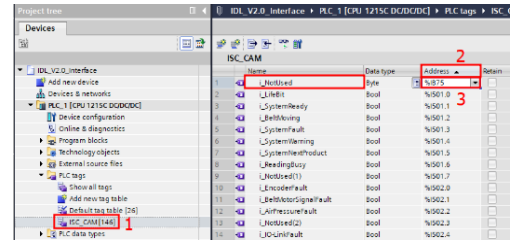

Figure 19: Changing the First Input Byte of the ISC CAM PLC Tags
51. Open PLC tags "ISC_CAM," Figure 19.
52. Select "Address" column to organize the data in order, Figure 19.
53. Select the first input byte "i_NotUsed" data address %IB500 and change it to match the first byte of the available "I address" of the ISC CAM "Device overview," Figure 19.